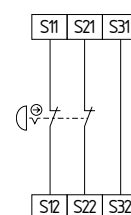

Fig. 10
**Dual-channel emergency stop circuit with command devices to EN ISO 13850 and EN 60947-5-5 (see Fig. 10)**